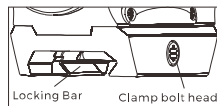

Fig 4
2. Insert the appropriate Torx wrench (included) into the clamp bolt head, rotate to loosen the cross bolt and then slide the sight into the firearm rail to the appropriate position. Finally tighten the clamp bolt. (Fig4)